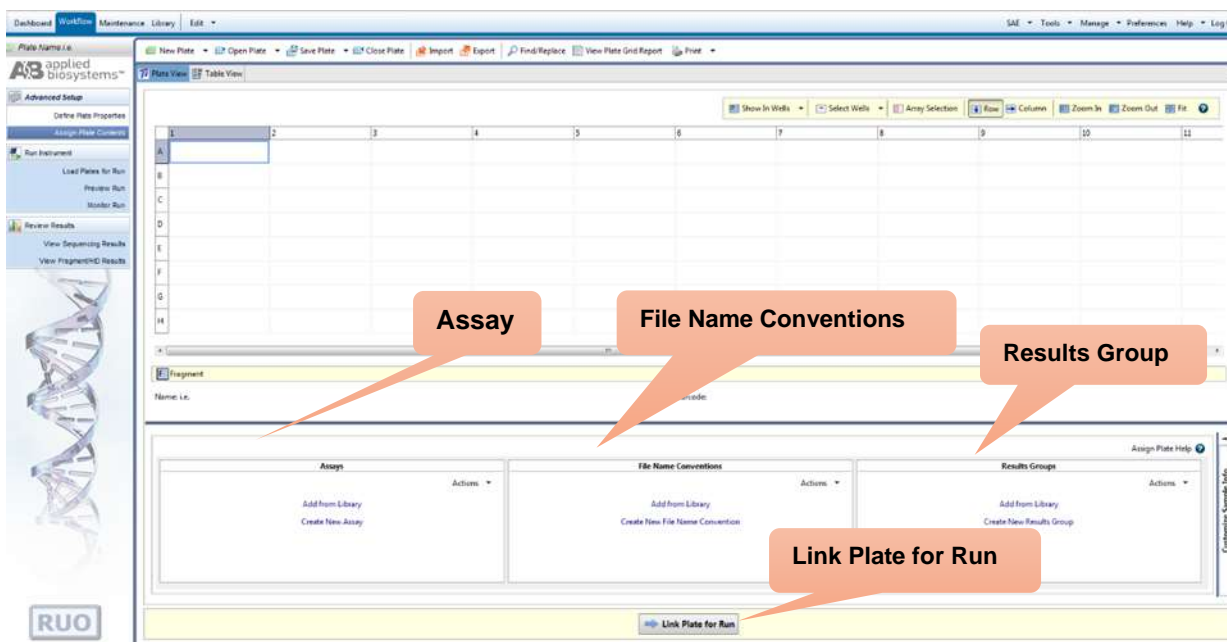

Figure 12. Screenshot for the “Assign Plate Contents” window on Applied Biosystems 3500 Data Collection software
- In the *Assign Plate Window* (Figure 12), in the bottom left corner, in a box “Assay”, click *Add from Library* option to select the Assay created in Step 3.1.4. Click on the Add to Plate button and close the window.